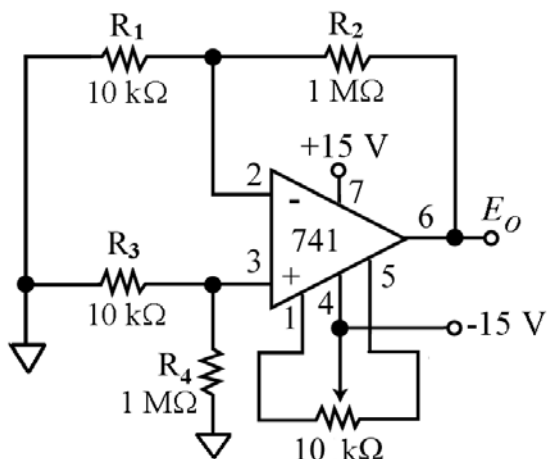
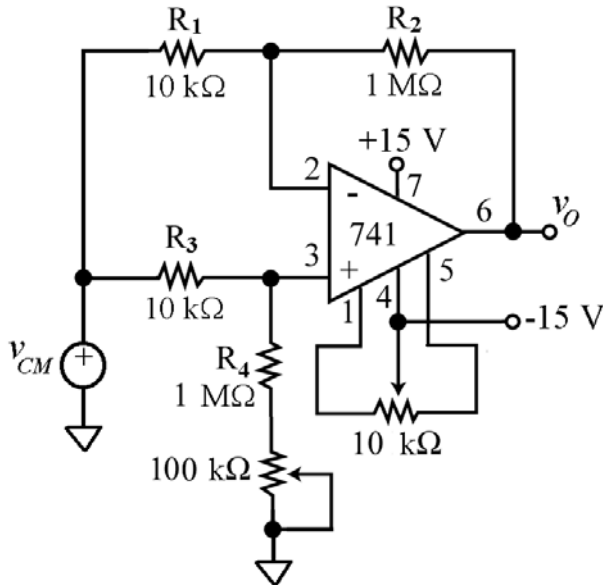
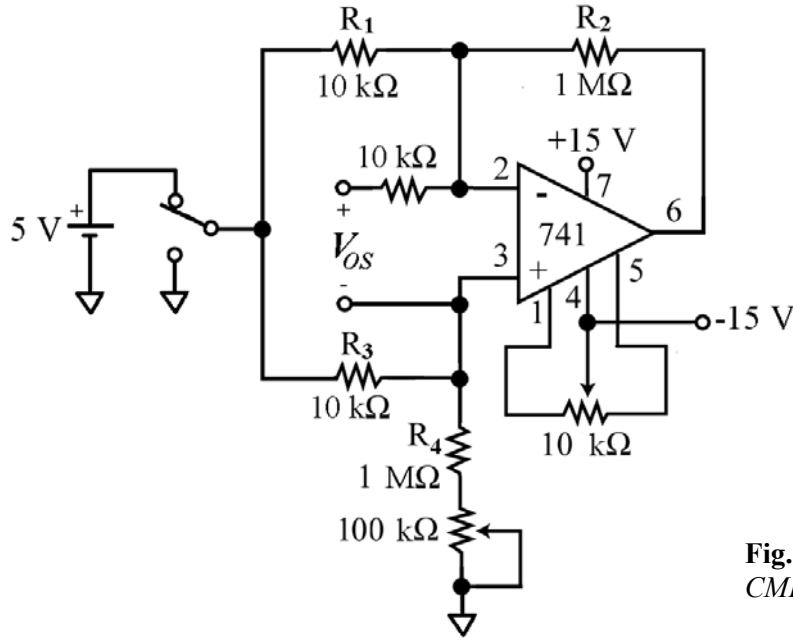

Fig. 9 – Difference amplifier with provision for *offset nulling*.
Fig. 10 – Circuit setup to optimize the *CMRR* of a difference amplifier.
Fig. 11 – Test circuit to find the $CMRR$ of the basic op amp.
M8: The 741 op comes with provision for nulling the input offset error appearing inside brackets in Eq. (14). Nulling is accomplished by connecting an external 10-k Ω potentiometer as specified in the data sheets. The purpose of this pot is to *deliberately imbalance* the internal circuitry of the op amp so as to allow the user to drive E_o to zero. With power off, connect the pot between pins 1 and 5 as shown in Fig. 9. Reapply power, and vary the wiper until E_o comes as close as possible to 0 V, giving the appearance of an *offset-less* op amp! Once the pot has been adjusted, it should not be touched again, unless necessary because of thermal drift or other changes in the circuit.
in Fig. 10, we expect that a true difference amplifier will give $v_O = 0$ regardless of v_{CM} . In practice, v_O is likely to be different from zero because actual resistors will fail to satisfy Eq. (12) exactly, and also because of op amp nonidealities. The ratio v_O/v_{CM} is called the *common-mode gain*,
MC9: With power off, add to your difference amplifier the 100-kΩ pot as indicated in Fig. 10. Initially, turn the wiper *all the way up* so as to short out the pot resistance and leave the resistance ratios as in Fig. 9. Next, apply power, and using Ch. 1 of the oscilloscope to monitor v_{CM} , adjust the waveform generator so that v_{CM} is a 100-Hz sine wave alternating between -5 V and $+5$ V. Observing v_O with Ch. 2 of the oscilloscope, measure the gain $A_{cm} = v_O/v_{CM}$, and insert it into Eq. (17), along with $A_{dm} \cong 100$ V/V, to find the value of $CMRR_{dB}$ for your difference amplifier.
MC10: Now vary the wiper of the 100-k Ω pot in Fig. 10 until v_O is *minimized*. This, in turn, will maximize the $CMRR$ of your circuit. What is its new value, in dB?
MC11: Now let us take advantage of the calibrated circuit of Fig. 10 to find the $CMRR$ of the basic op amp via Eq. (3). With power off, insert the additional 10-k Ω resistor shown in Fig. 11 (the reason is given below). Then, apply power, and measure V_{OS} first with the switch to ground, then with the switch to +5 V (obtain 5 V from the third output available from your bench power supply). Next, calculate the difference ΔV_{OS} between the two readings. Note that flipping the switch from 0 V to 5 V causes the common-mode input to the basic op amp to change by $\Delta v_{CM} = 5R_4/(R_3 + R_4) \cong 5$ V, so apply Eq. (3) to estimate $CMRR \cong |\Delta v_{CM}/\Delta V_{OS}| \cong |(5 \text{ V})/\Delta V_{OS}|$. Give its value in dB, compare with the data sheets, and comment.